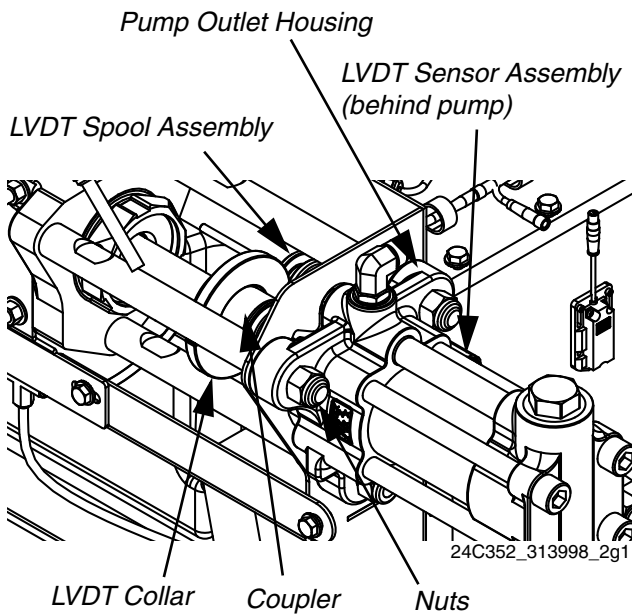

FIG. 2
7. Remove coupler from the A and B side pump shafts. See FIG. 2.
8. Unscrew LVDT sensor assembly and spool assembly from pump outlet housing. Wipe off spool assembly. See FIG. 2.
9. Remove three nuts securing pump to tie rods. See FIG. 2.
6. Remove two shoulder bolts from LVDT collar then remove collar from B side pump shaft. See FIG. 2.